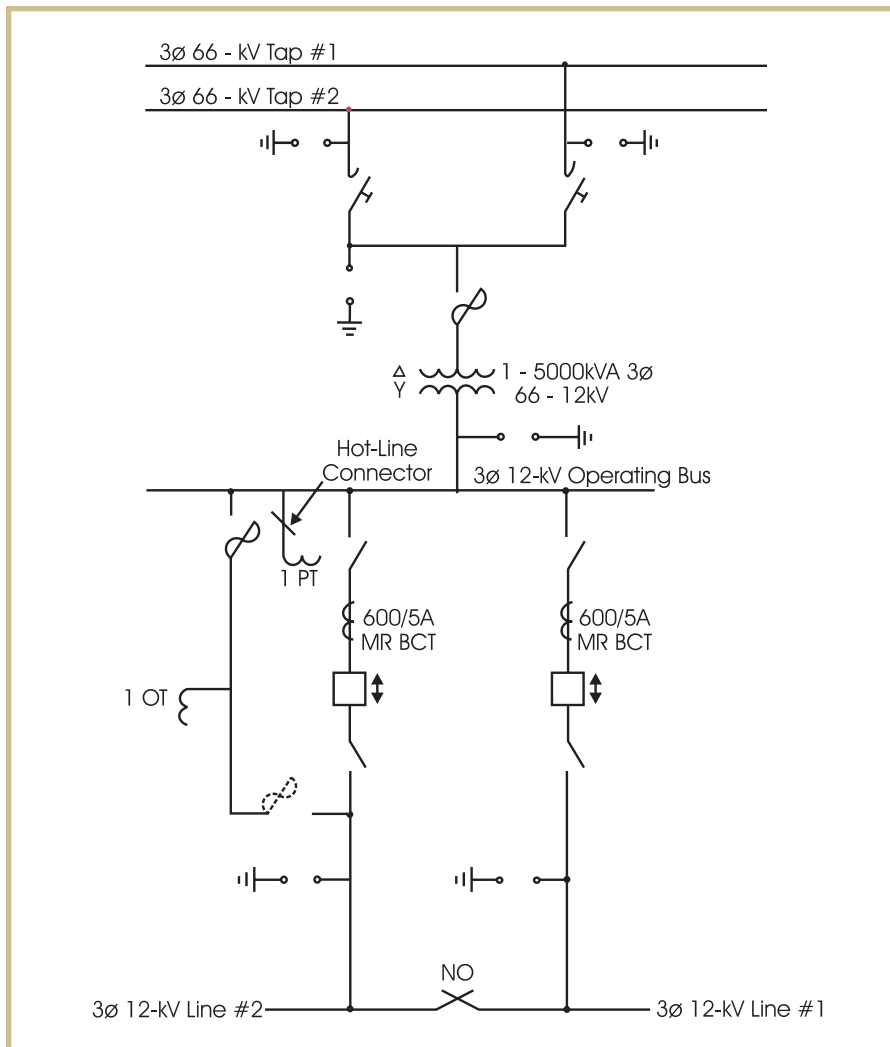

FIGURE 6—One-Line Diagram of Substation
Figure 6 shows the one-line diagram of the utility substation (represented by the blueprint in Figure 2) that's stepped down from 66 to 12 kV (kilovolts). While looking at the symbols in Figure 7, review this diagram. Two paralleled three-phase 66-kV power sources supply the substation. Each three-phase power source has a hand-operated air-break switch. Lightning arresters are located at the connection point of the air-break switches. The 66-kV supply powers the 3-phase, 5000-kVA (kilovoltamperes), 66- to 12-kV transformer through a fused disconnect switch. The 12-kV side has lightning arresters, and goes to a 12-kV operating bus. Two feeders are tapped from the 12-kV operating bus. An oil circuit breaker (OCB) protects each feeder. There are single-throw switches on both sides of the OCBs, to enable isolation of each OCB for maintenance. Also tapped off the operating bus is one operating transformer (OT), which